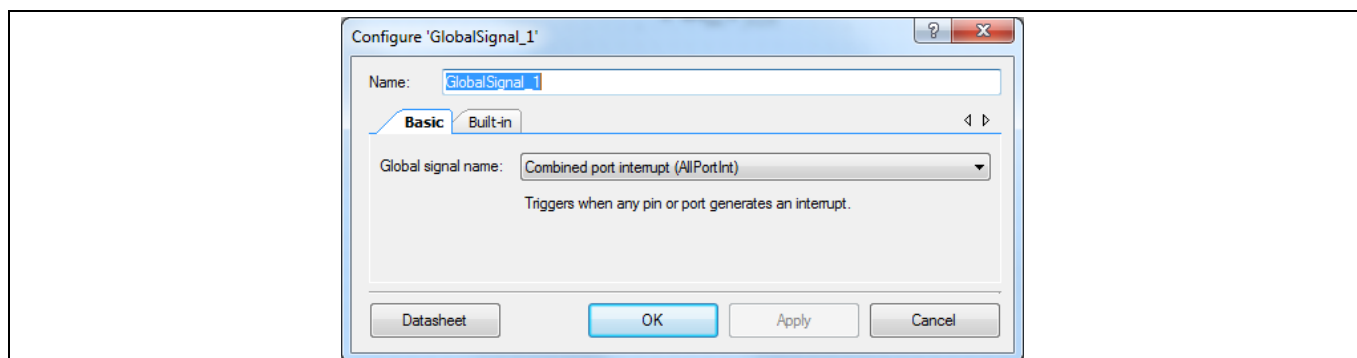

Figure 22 Placing a GlobalSignal Component
3. Place a GlobalSignal Component and set it to “Combined Port Interrupt (AllPortInt)”, see Figure 22.